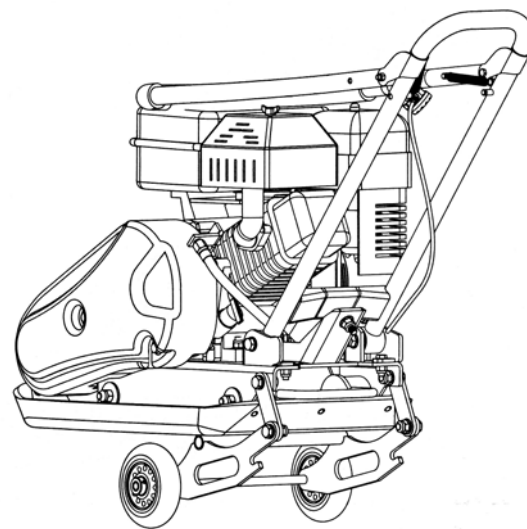

Figure 16
4. For more compact storage, fold the upper handlebars assembly down (see Figure 16).